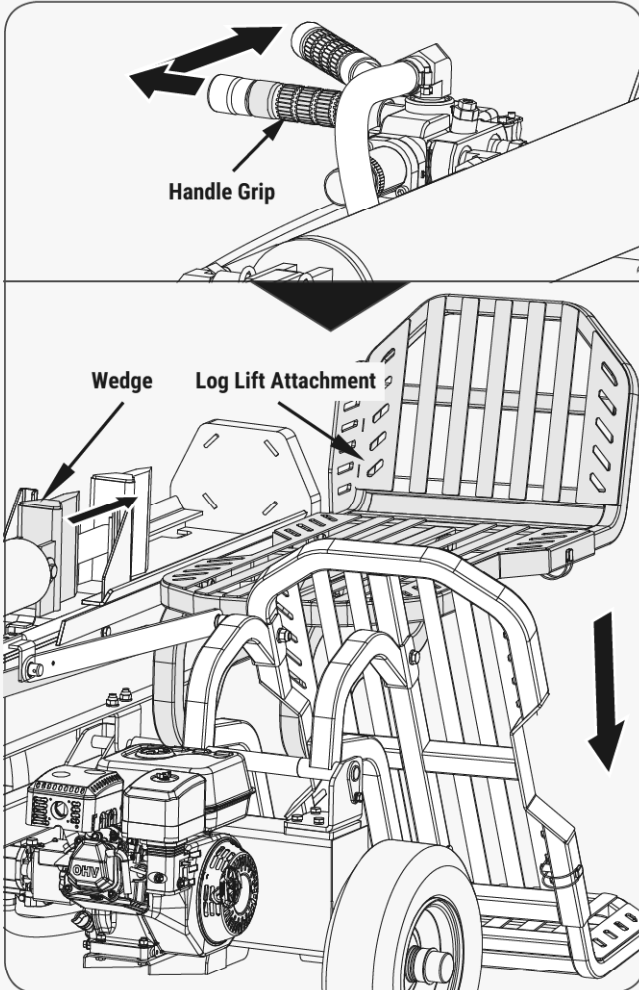

Figure 27a
1. When the log lift table attachment is flush with the beam, pull the control lever of the control valve outward while pushing it forward. then the wedge moves forward, and at the same time, the log lift table attachment will go downward. (See **Figure 27a.**)